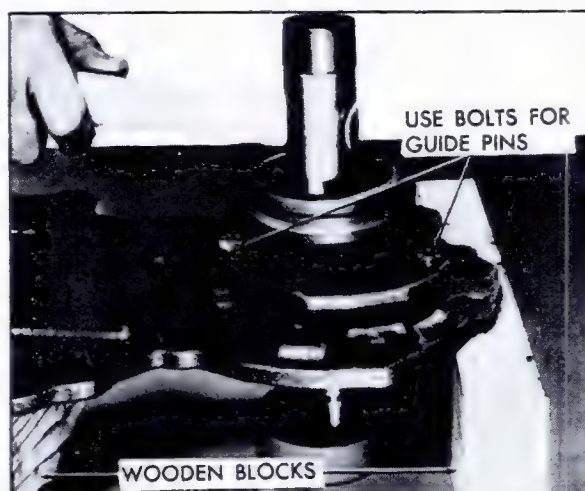

Fig. 7-170 Installing Driven Sprocket Support
e. Install drive sprocket support housing into pump cover plate by using a plastic mallet to seat the housing. Use bolts for guides, Fig. 7-170.